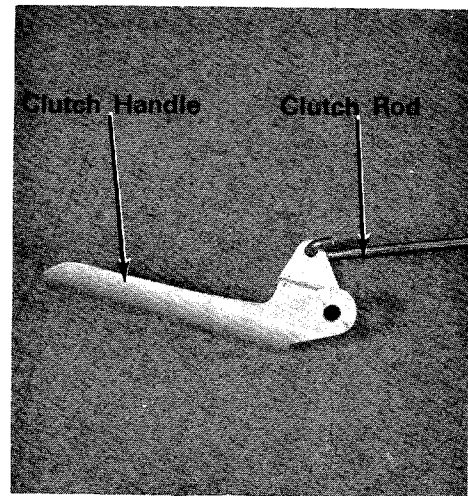

FIGURE 8
- Attach the clutch handle to the clutch rod as it is shown in figure 8.